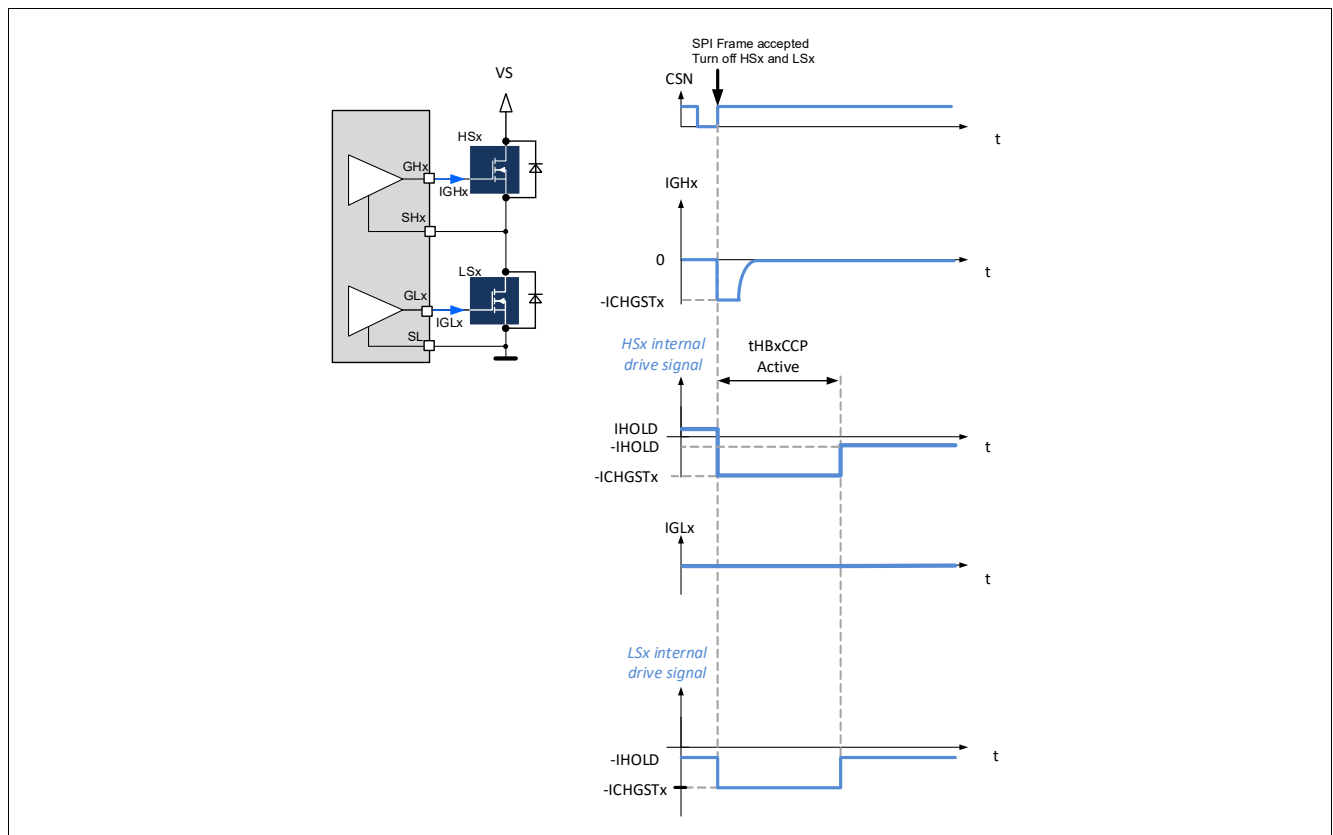

Figure 50 Turn-off of the high-side and low-side MOSFETs of a half-bridge
- The gate of HSx and LSx are discharged with the current -ICHGSTx for the duration $t_{HBxCCP\ ACTIVE}$ (Figure 50).